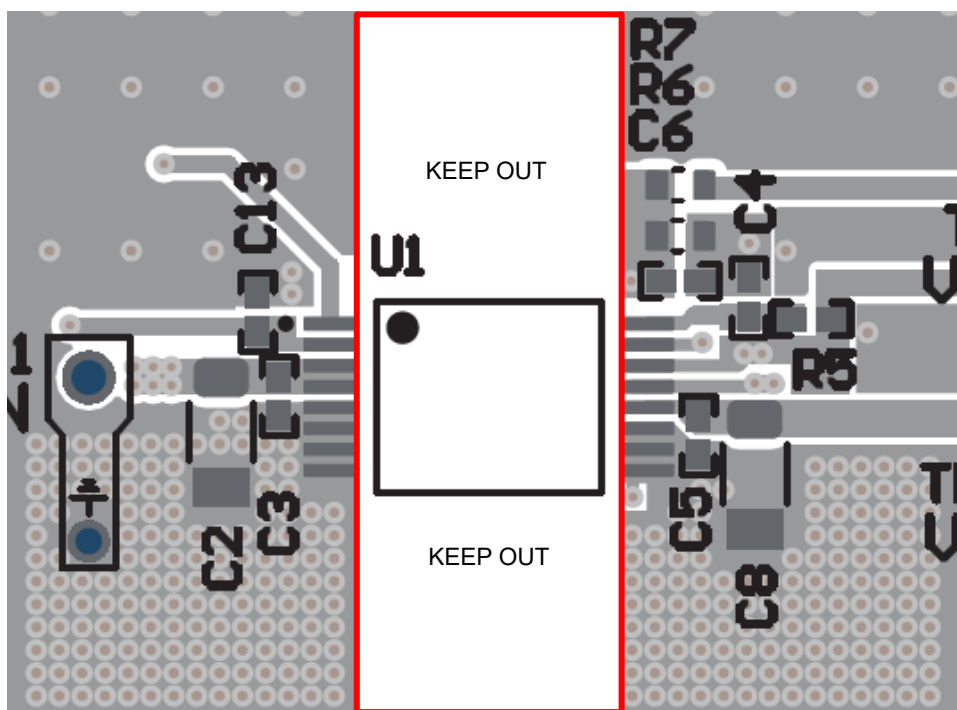

Figure 8-8. Isolation Keep Out Region
6. Creepage clearance: To maintain the full creepage, clearance and voltage isolation ratings specified in the data sheet, avoid routing signal traces or placing components directly under the UCC34141. Maintain the clearance width highlighted in red, throughout the entire defined isolation barrier. Keep-out clearance for basic isolation can be 50% less than the reinforced isolation requirement (8.2mm). Using 8.2mm provides additional margin. A layout example is shown in Figure 8-8.